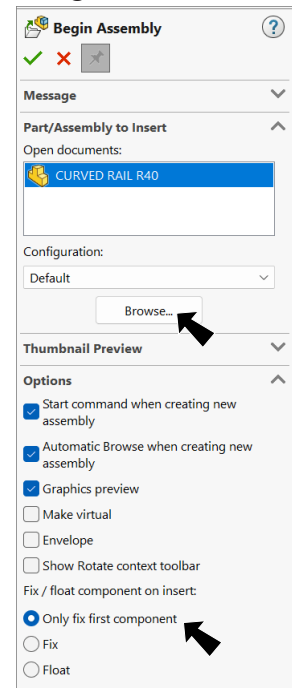

Fig. 1
click **Keep Visible** , Fig. 1
Step 4. Click **Browse**  in the Property Manager, Fig. 1.